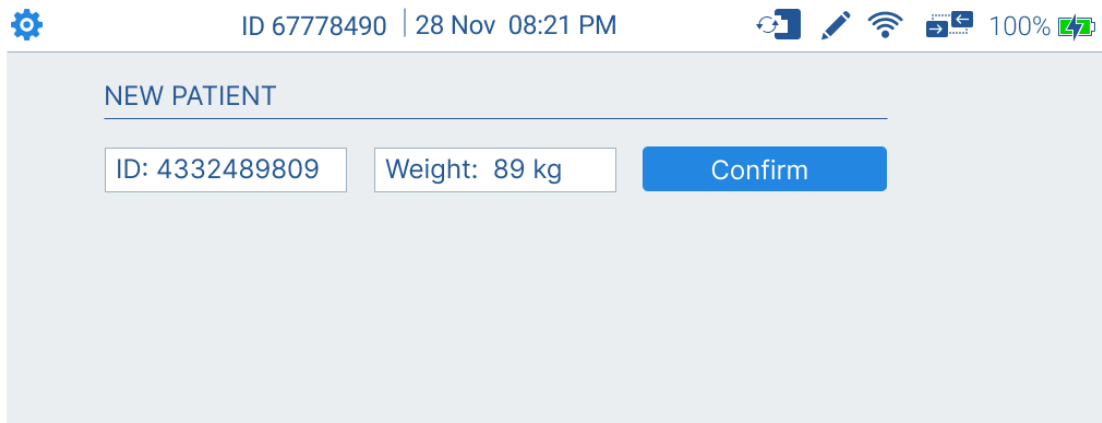

Figure 12 – Patient Details screen
Following cassette insertion, the system will prompt the Patient Details Screen (Figure 12). Insert patient identification number and weight and press Save.
2. For defining a new patient - Click "Discard and start new patient". The system will prompt the Patient Details (Figure 12) Screen. Insert patient identification number and weight and press Save.